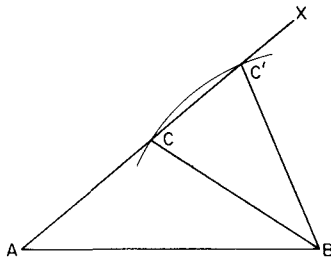

Fig. 3.11
3. To construct a triangle given two sides and an angle which is not the included angle between the two sides. In Fig. 3.11 we are given the sides AB and BC and the angle at A.
It will be seen from Fig. 3.11 that there are two triangles (ABC and ABC') which can be drawn from the given data. This case is known as the ambiguous case.